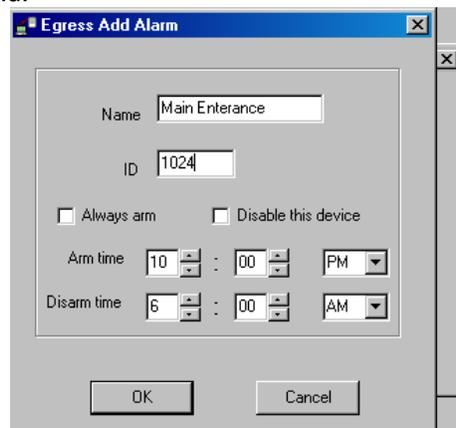

Figure 8
- Now determine if you want this device to always be active or to only be active during a specific time of day. If you would like this device to always be monitored place a check mark next to **Always arm**. If you want to have the alarm only active during a specific time of day leave the **Always arm** blank and change the **Arm time** so the system knows when to start monitoring this device and change the **Disarm time** so the system knows when to stop monitoring this device. In **Figure 8** below the Main Entrance is only being monitored after 10:00PM and until 6:00AM.